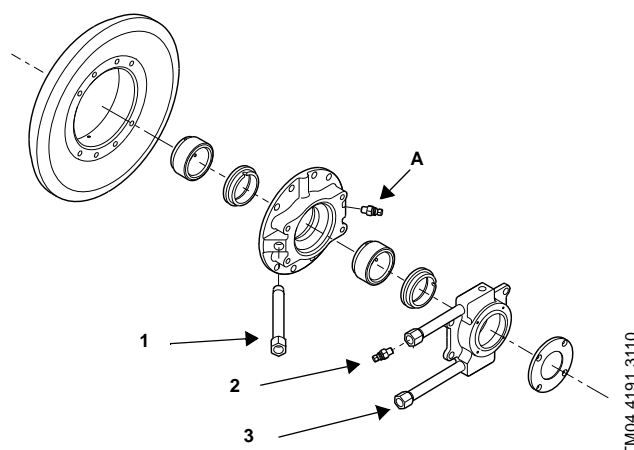
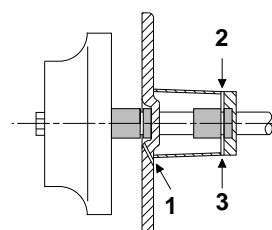

Fig. 2 Tandem seal arrangement with two separate shaft seals in a seal chamber
Fig. 3 Flow direction of flushing liquid
In this tandem shaft seal arrangement, the seal chamber has three connections. See fig. 2 and fig. 3. Pos. 1 leads to the pumped liquid side of the shaft seal, and pos. 2 and 3 lead to the seal chamber. All connections are close to the seal faces of the shaft seals.
1. Connect the inlet and outlet of the seal chamber/cartridge seal by means of a suitable pipe or hose connection. See figures 2 and 4.
Unscrew the two connections (pos. 2 and 3, fig. 2).